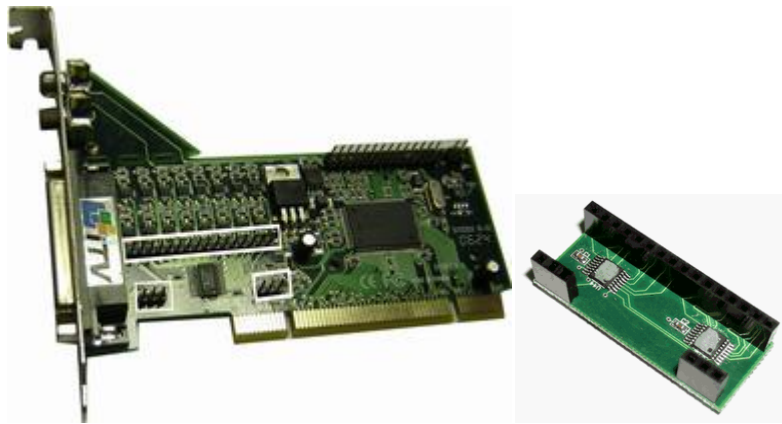
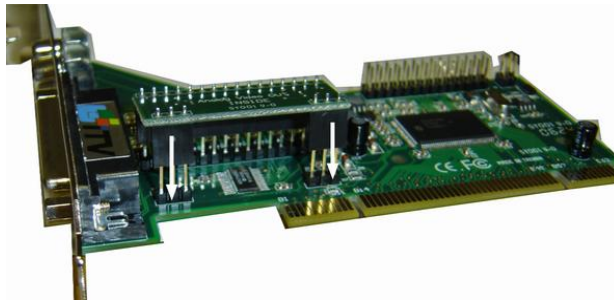

Figure 2.2-2 Connectors on the analog video out card and corresponding connectors on the video capture card
Figure 2.2-3 Connecting the analog video out card to corresponding connectors on the video capture card
2. Install the analog video out card on the video capture card, using special connectors on the video capture card (Figure 2.2-2 and Figure 2.2-3).